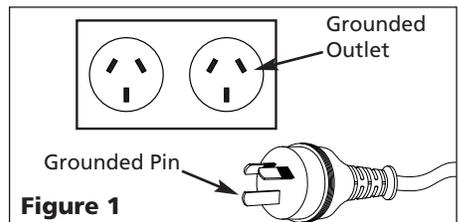

Figure 1
1. This product is for use on a nominal 240 volt circuit and has a grounding plug that looks like the plug illustrated in Figure 1. Make sure the product is connected to an outlet having the same configuration as the plug. This product must be grounded. In the event of an electrical short circuit, grounding reduces risk of electrical shock by providing an escape wire for electric current. This product is equipped with a cord having a grounding wire with an appropriate grounding plug. Cord must be plugged into an outlet that is properly installed and grounded in accordance with all local codes and ordinances.